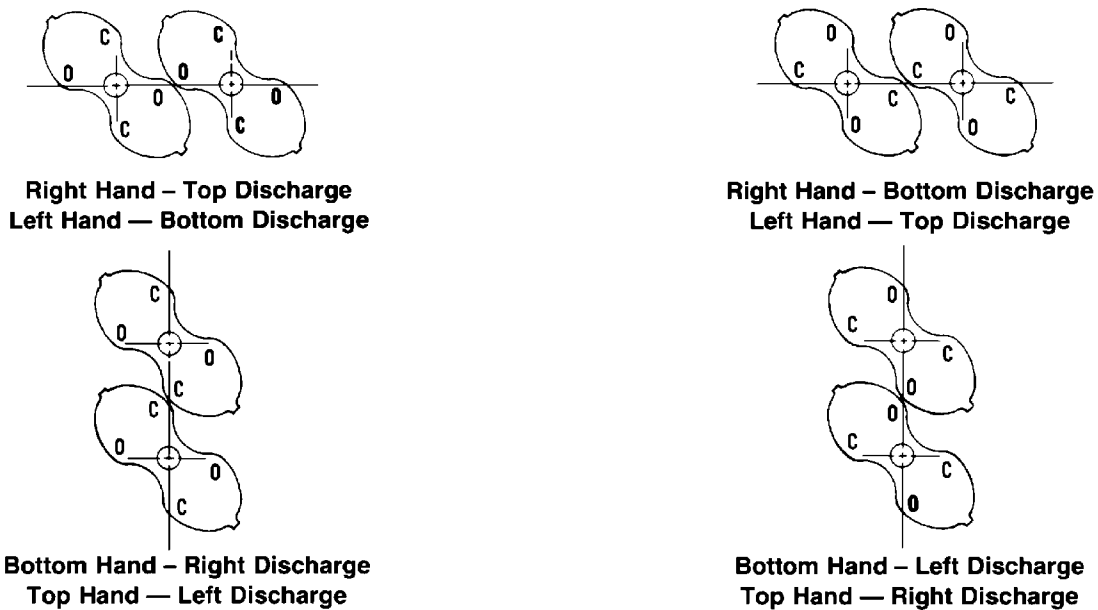

FIGURE 12 - IMPELLER LOBE CLEARANCES
**Determining Proper Impeller Clearances** - Refer to FIGURE 12, page 15. Impellers are shown viewed